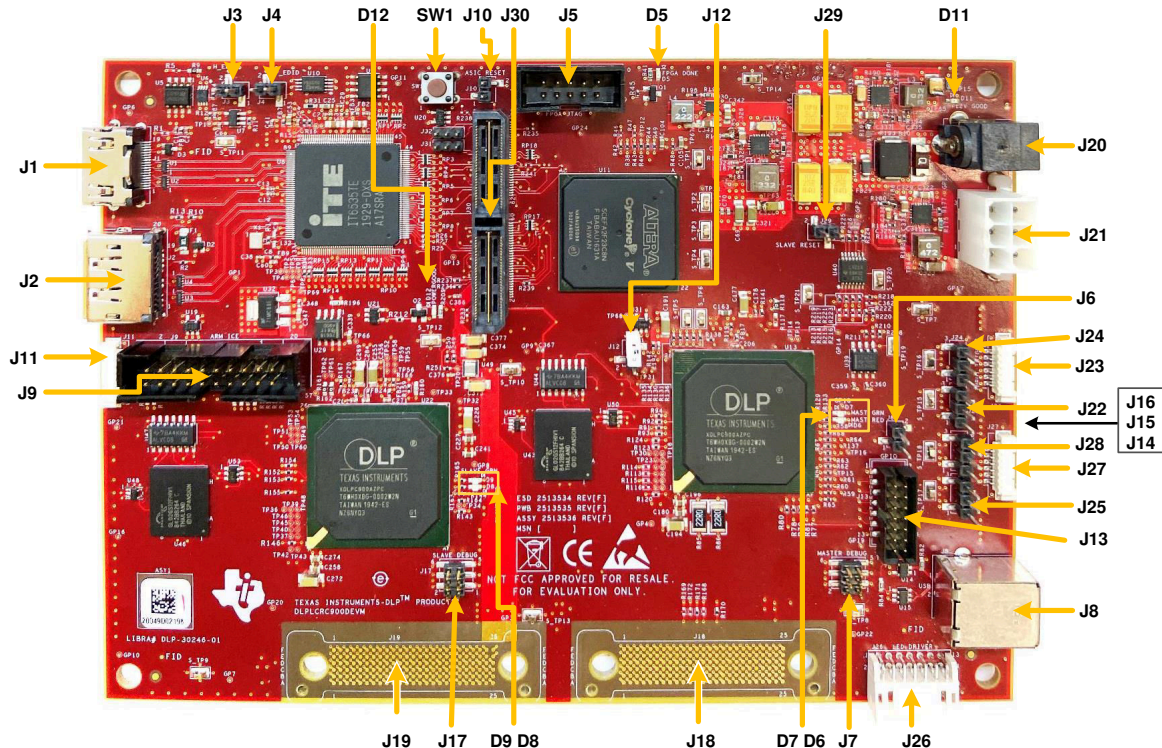

Figure 1-3. DLP LightCrafter Dual DLPC900 EVM Connectors (Top View)
Figure 1-3 depicts the switches and connectors with the respective locations.
1. Connect a 12V DC power supply to the power supply connector J20 in Figure 1-3.
5. Connect a USB cable from a PC to connector J8 on the DLP LightCrafter Dual DLPC900 EVM, as seen in Figure 1-3. The first time the cable is connected on a PC, the DLP LightCrafter Dual DLPC900 EVM enumerates as a USB composite device with a human-interface device (HID) class. No drivers are required since these are natively handled by the Windows operating system.